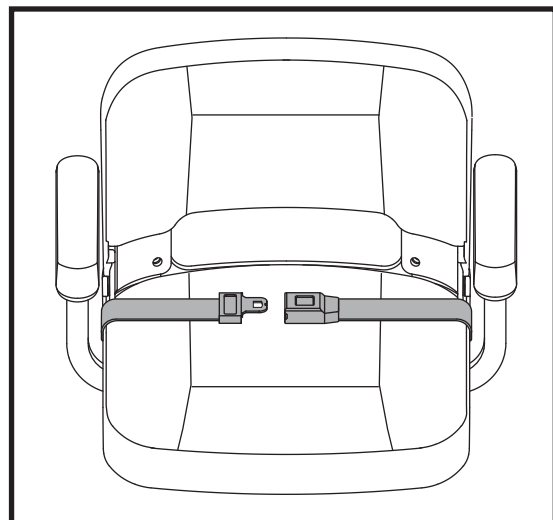

Figure 28. Positioning Belt - Metal Tab Style
Your scooter seat may be equipped with an auto-type positioning belt that can be adjusted for operator comfort. **See figure 28 or 29.** The positioning belt is designed to help support the operator so that he or she does not slide down or forward in the seat. The positioning belt is not designed for use as a restraining device.
1. Insert the metal tab on the right side of the belt into the plastic housing on the opposite strap until you hear a “click.” **See figure 28.**